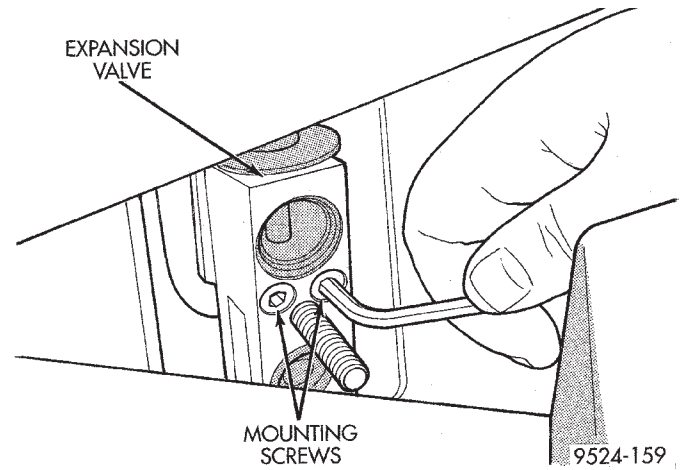

Fig. 40 Expansion Valve Stud and Mounting Screws
- (9) Remove the stud from the expansion valve (Fig. 40).
- (10) Carefully pull the refrigerant line sealing plate assembly from expansion valve towards the front of the vehicle. Use care not to scratch the expansion valve sealing surfaces with pilot tubes.
- (11) Cover the openings to prevent contamination.
- (12) Remove two screws securing the expansion valve to the evaporator sealing plate (Fig. 40).